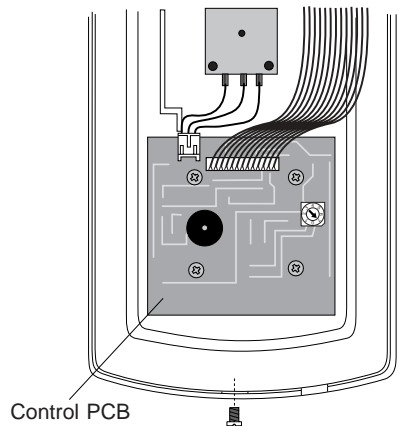

Figure 5
- 3.2.1. Connect the wire 78 multi-connector to the socket on the control PCB. The wire 78 multi-connector lead plug is a one way fit into the socket and must be pushed fully home (refer to Figure 5).